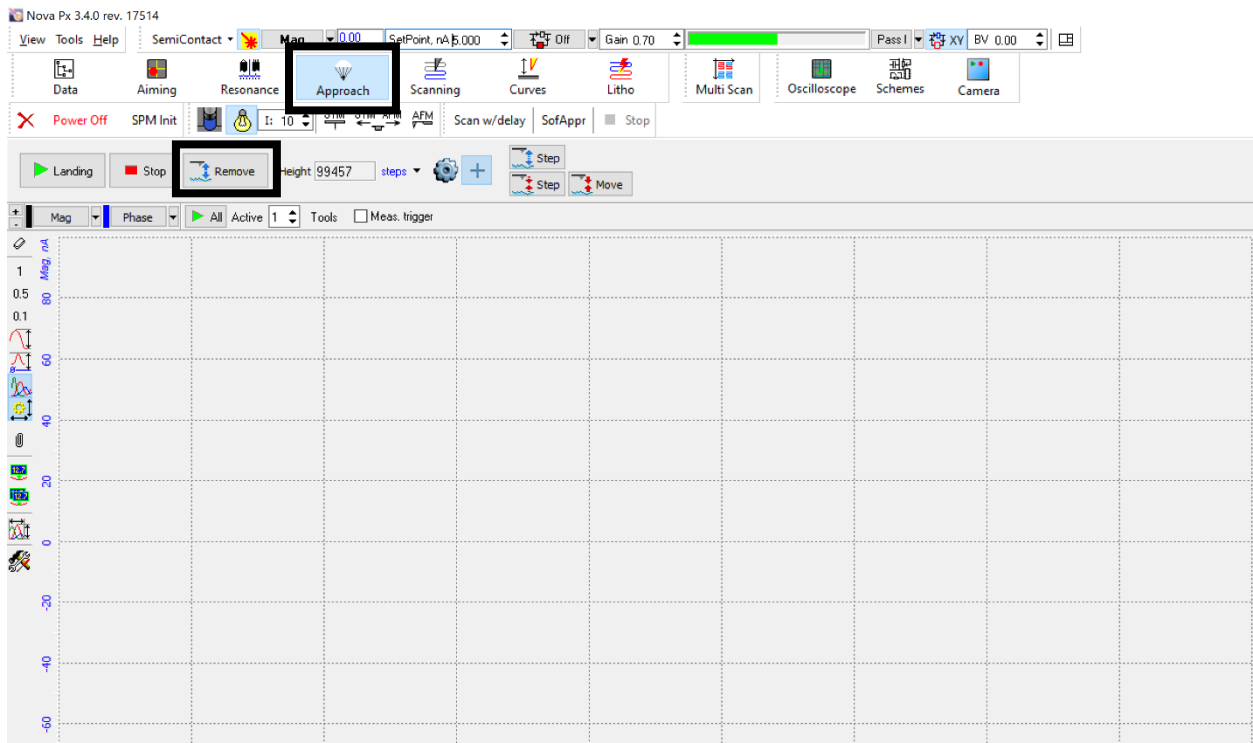

Figure 3: Approach window
- Go to the “Approach” tab (Figure 3).
the sample (Figure 3).